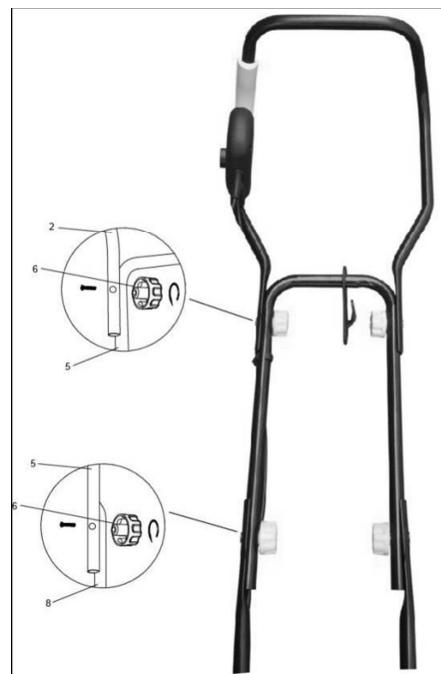

Fig.2
2. Assembly of the Middle Handle **5** and Upper Handle **2**, Cable Retaining Hook **3** and Cable clip **7** (Fig.2)